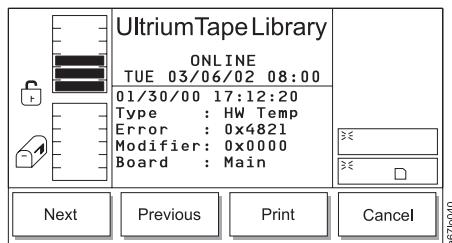

Figure 4-45. Error Log Dialog
3. Press the button below the **Error Log** softkey. The Error Log Dialog displays (see Figure 4-45).